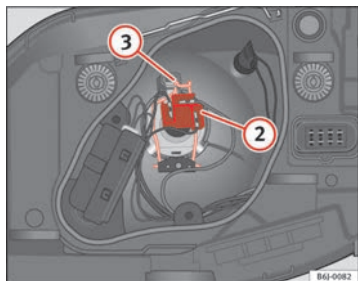

Fig. 147 Dipped beam/main beam, single headlight
- Remove the connector ⇒ fig. 147 ② from the bulb.
- Unclip the retainer spring ⇒ fig. 147 ③ pressing inwards to the right.